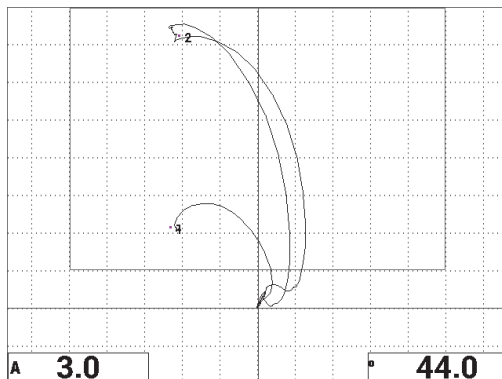

Figure 6-43 The second scan over the disbands
13. Press the FULL NEXT key () to display the full screen, and then slowly scan over the disbands and ensure that the dots still match the signal (see Figure 6-43 on page 160).